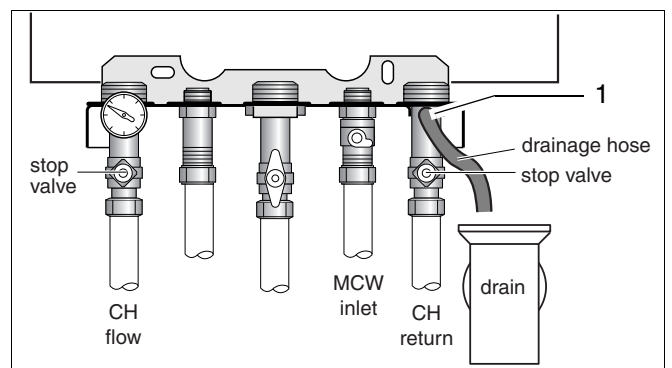

fig. 40 Draining the boiler
- Connect drainage hose (fig. 40).
- Connect draining hose to draining point on the manifold (fig. 40, item 1).
- Open draining point to drain the boiler (fig. 40, item 1).